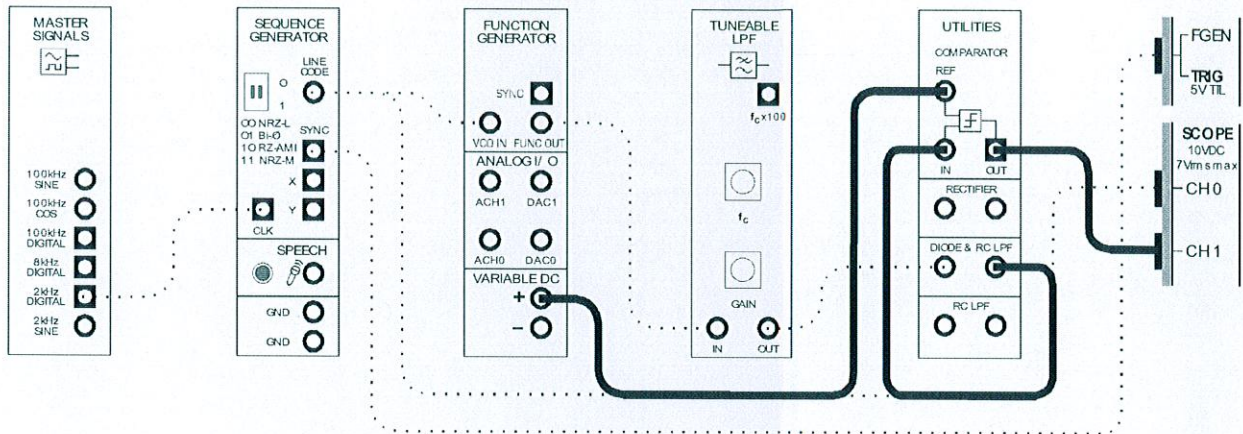

Figure 7
26. Modify the set-up as shown in Figure 7 below.